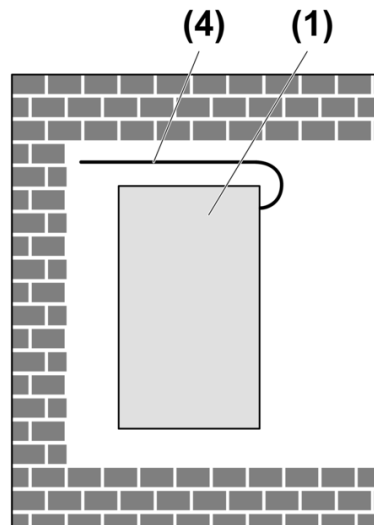

Figure 4
- Lay the antenna (4) stretched out freely if possible (figure 4).